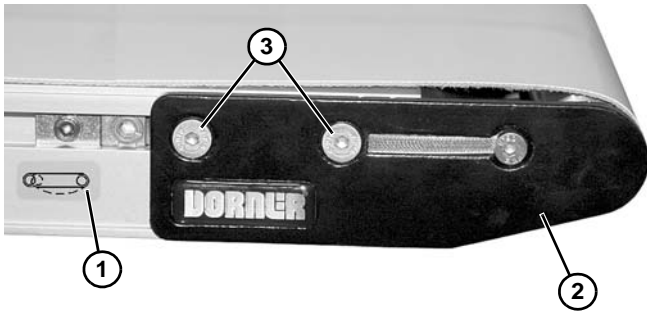

Figure 43
2. On tension end of the conveyor, identified with a  label (**Figure 43, item 1**), push in headplate assembly (**Figure 43, item 2**): On both sides of conveyor, loosen fastening screws (**Figure 43, item 3**) and push headplate assembly inward.